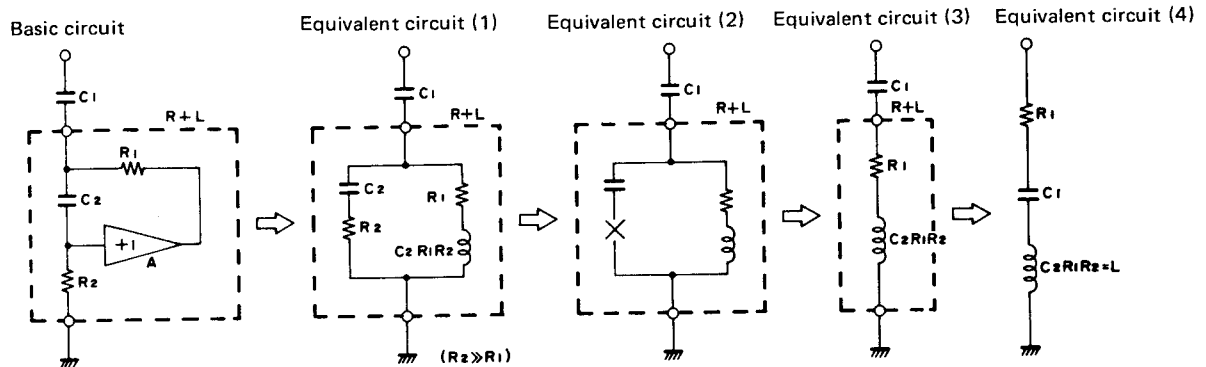
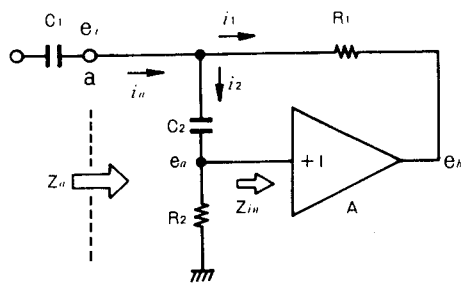

Fig. 13 Process of analyzing the semiconductor inductance circuit
Fig. 14 Semiconductor-inductor equivalent circuit
Fig. 13 illustrates the process of analyzing the semiconductor-inductor employed in the SEA-80 from the basic to the grounded series resonance circuit.
Fig. 14 shows a more detailed analysis of the "R + L" part enclosed by the dotted in Fig. 13.
Since A in Fig. 14 is a buffer amplifier having a gain of 1, resulting in $e_a = e_b$, and e_a is a voltage divided by C_2 and R_2 .
The condition $R_2 \gg R_1$ should be satisfied when the equivalent circuit (1) is transformed into (2) in Fig. 13. However, in practice, it is impossible to make R_2 infinite and certain circuit technique is employed for practical use in order to eliminate the effect of R_2 .